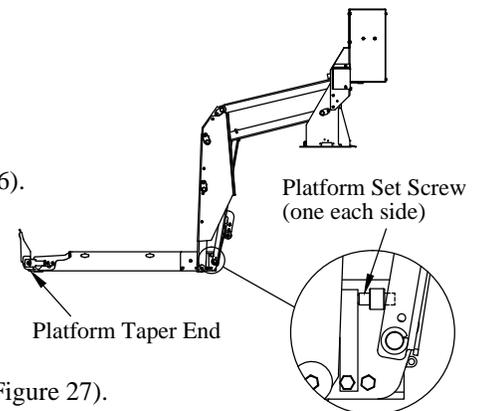

Figure 26: Platform.
3. **Check** if the platform loading surface is even with base plate cover (Figure 26).
4. **Position** the platform so that it is even with the top of the base plate cover (Figure 26).
3. **Adjust** the platform set screws until the platform taper end rests on the ground (Figure 26).